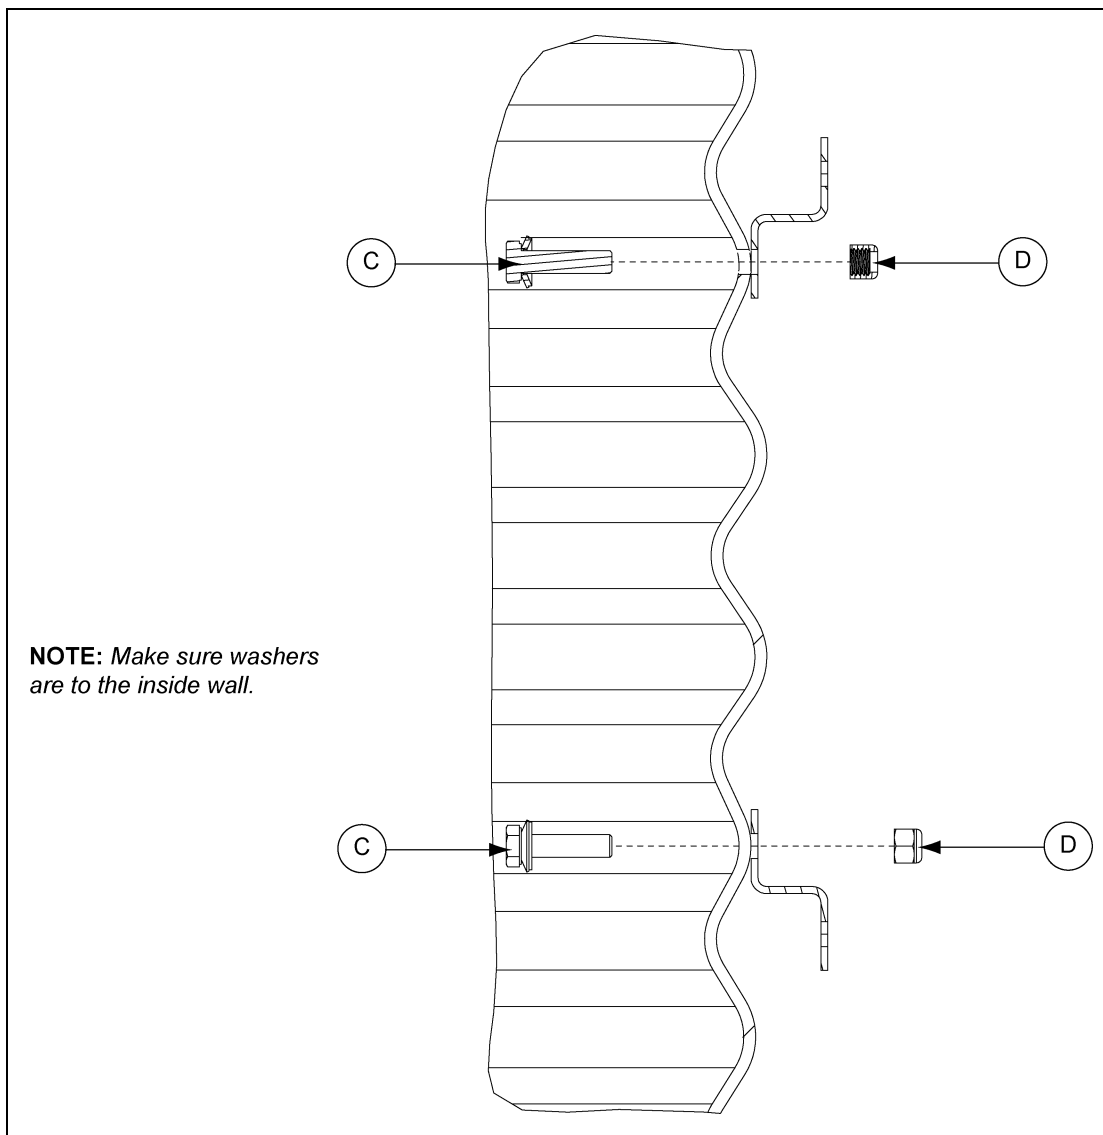

Figure 3B
7. Insert three (3) 5/16"-18 x 1-1/4" bolts (C) through the sidewall, washer to the inside of the sidewall sheet, through the two (2) brackets and fasten together with three (3) 5/16"-18 nylock nuts (D). *(See Figure 3B.)*